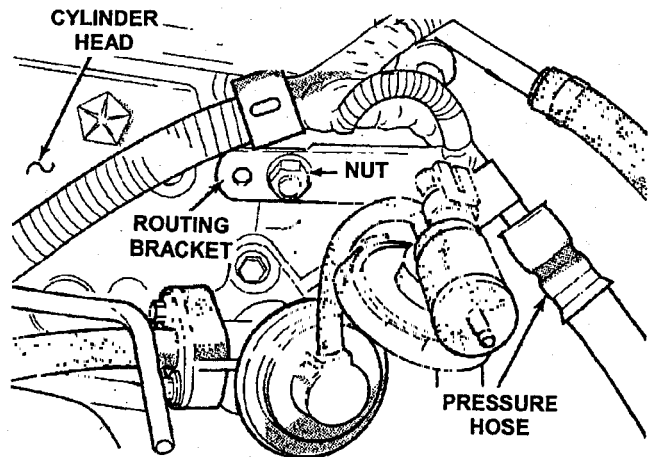

**Figure 1**
4. Using an 18mm line wrench, disconnect the pressure hose at the steering gear housing (Figure 1).